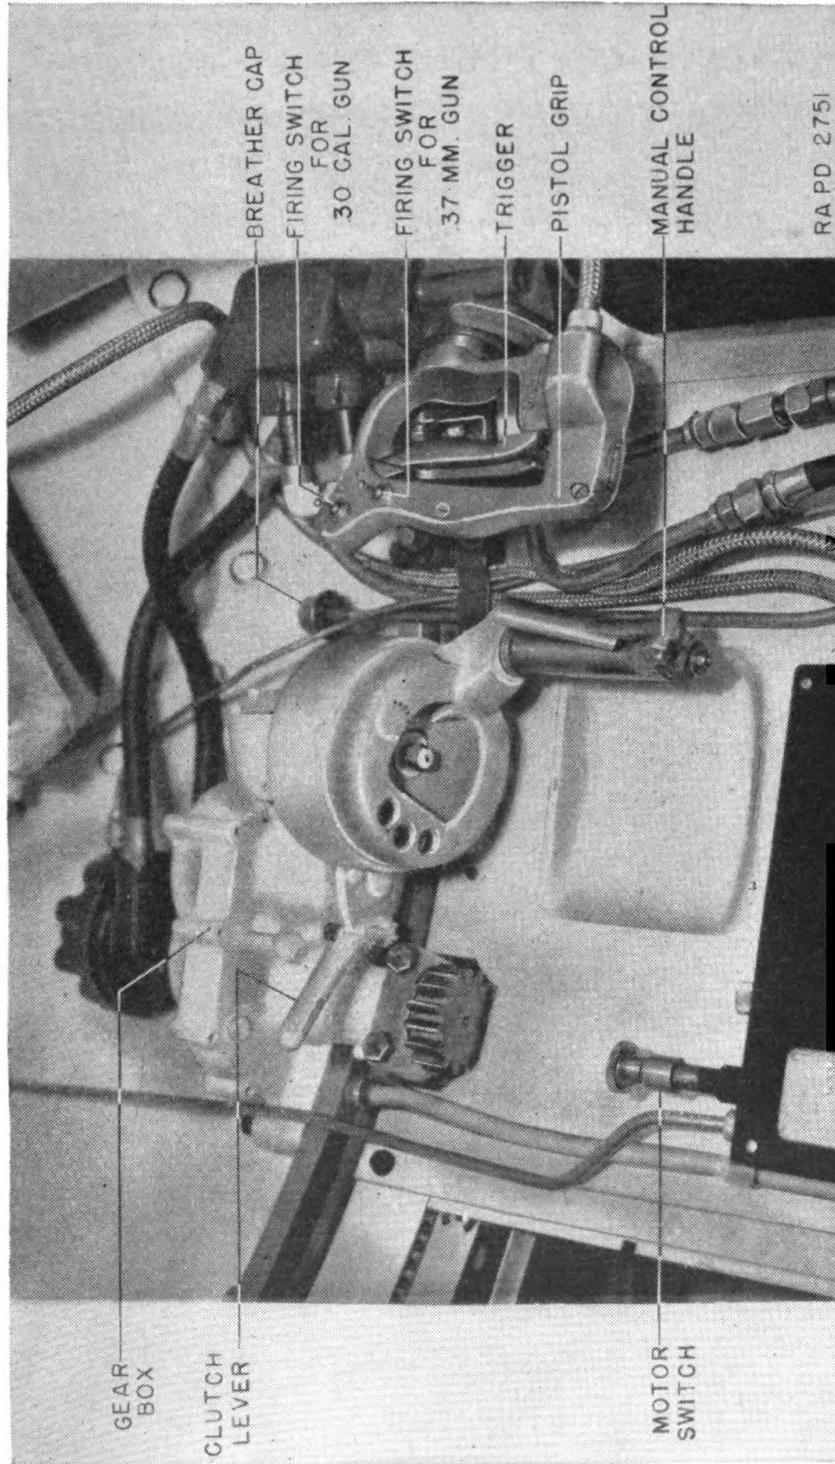

FIGURE 15.—Controls for turret operation and firing of guns.
b. Turret guns and mounts (fig. 15).—The guns located in the turret consist of a 37-mm gun M5 or M6 and a caliber .30 machine gun M1919A4, which are mounted together and move as one unit. The guns are traversed by turning the whole turret assembly, using the hydraulic system or by hand.
electrically by squeezing the safety grip and depressing the switches on the hydraulic traversing control handle (fig. 15). The top switch operates the caliber .30 machine gun and the bottom switch operates the 37-mm gun. The gunner sits on the left side of the mount and the loader on the right. Care must be exercised to see that the loader's hand is not caught in the automatic breech-block. See figure 13 for ammunition stowage.